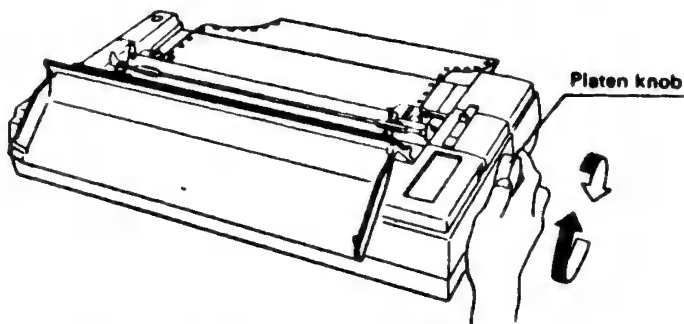

Figure 2-22 Loading the Paper
- b) Manually turn the Platen Knob in the direction shown by the arrow in Figure 2-22, until the paper is held between the platen and the bail rollers.